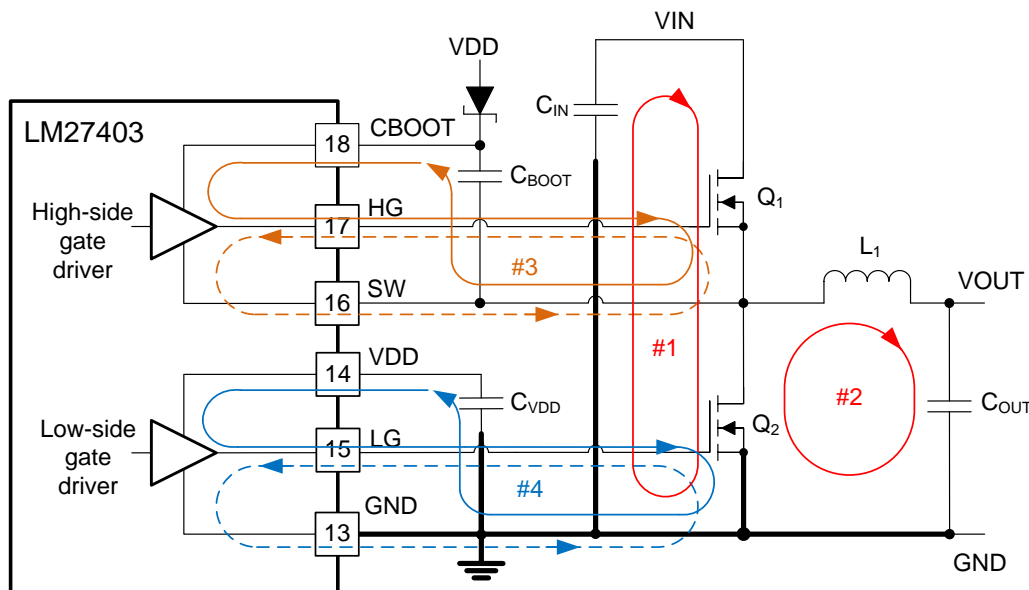

Figure 51. DC-DC Regulator Ground System With Power Stage and Gate Drive Circuit Switching Loops
Proper PCB design and layout is important in a high current, fast switching circuit (with high current and voltage slew rates) to assure appropriate device operation and design robustness. As expected, certain issues must be considered before designing a PCB layout using the LM27403. The main switching loop of the power stage is denoted by #1 in Figure 51. The topological architecture of a buck converter means that particularly high di/dt current will flow in loop #1, and it becomes mandatory to reduce the parasitic inductance of this loop by minimizing its effective loop area. For loop #2 however, the di/dt through inductor L_1 and capacitor C_{OUT} is naturally limited by the inductor. Keeping the area of loop #2 small is not nearly as important as that of loop #1. Also important are the gate drive loops of the low-side and high-side MOSFETs, denoted by #3 and #4, respectively, in Figure 51.
- VIN). Refer to loop #1 of Figure 51.
- Loop #2. The second important loop is the path from the low-side MOSFET through inductor and output capacitor(s), and back to source of the low-side MOSFET through ground. Connect source of the low-side MOSFET and negative terminal of the output capacitor(s) at ground as close as possible. Refer to loop #2 of Figure 51.
- 5. The SW pin connects to the switch node of the power conversion stage, and it acts as the return path for the high-side gate driver. The parasitic inductance inherent to loop #1 in Figure 51 and the output capacitance (C_{OSS}) of both power MOSFETs form a resonant circuit that induces high frequency (>100 MHz) ringing on the SW node. The voltage peak of this ringing, if not controlled, can be significantly higher than the input voltage. Ensure that the peak ringing amplitude does not exceed the absolute maximum rating limit for the SW pin. In many cases, a series resistor and capacitor snubber network connected from the SW node to GND damps the ringing and decreases the peak amplitude. Provide provisions for snubber network components in the printed circuit board layout. If testing reveals that the ringing amplitude at the SW pin is excessive, then include snubber components.
- Loop #3: high-side MOSFET, Q_1 . During the high-side MOSFET turn on, high current flows from the boot capacitor through the gate driver and high-side MOSFET, and back to negative terminal of the boot capacitor through the SW connection. Conversely, to turn off the high-side MOSFET, high current flows from gate of the high-side MOSFET through the gate driver and SW, and back to source of the high-side MOSFET through the SW trace. Refer to loop #3 of Figure 51.
- Loop #4: low-side MOSFET, Q_2 . During the low-side MOSFET turn on, high current flows from VDD decoupling capacitor through the gate driver and low-side MOSFET, and back to negative terminal of the capacitor through ground. Conversely, to turn off the low-side MOSFET, high current flows from gate of the low-side MOSFET through the gate driver and GND, and back to source of the low-side MOSFET through ground. Refer to loop #4 of Figure 51.